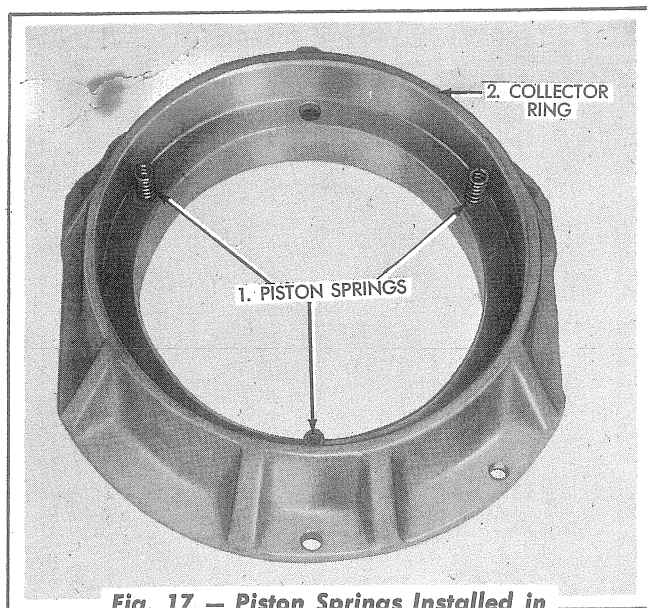

Fig. 17 — Piston Springs Installed in Collector Ring
2. Insert the piston springs into position in the collector ring as shown in Fig. 17. Lubricate the piston rings with clean oil and install the actuating piston in position in the collector ring, using care to prevent damage to the piston rings.